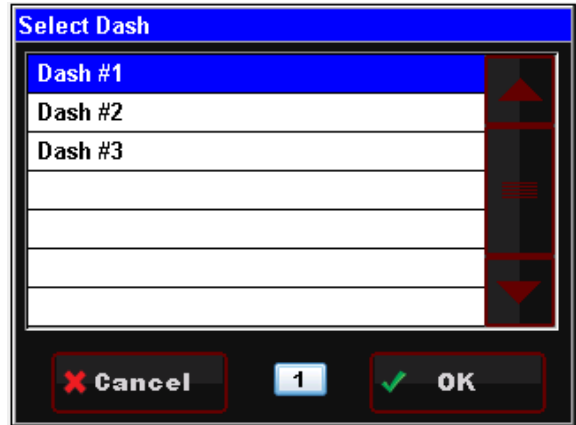

Figure 59
- Step 2: Choose the Dash number to be configured (Figure 59).